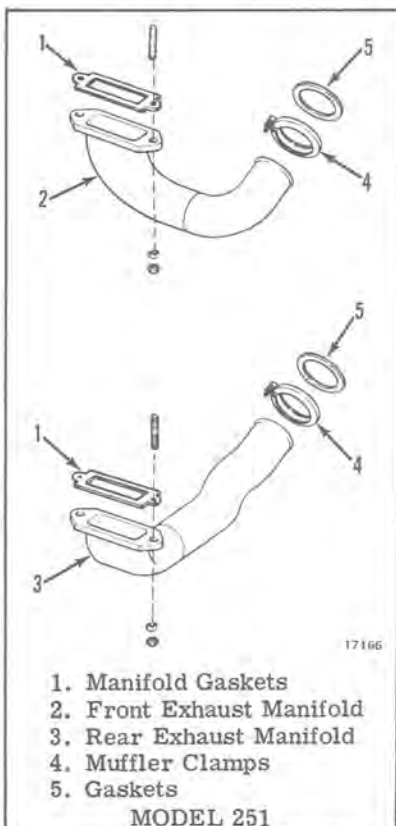

Figure 9-25
- a. Place new exhaust manifold gaskets over cylinder studs and then assemble front and rear exhaust manifolds. See Figures 9-25 & 9-26.